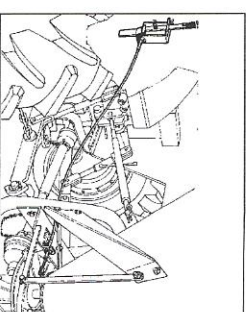

Fig. 13
- Mechanic remote control (Fig. 13)